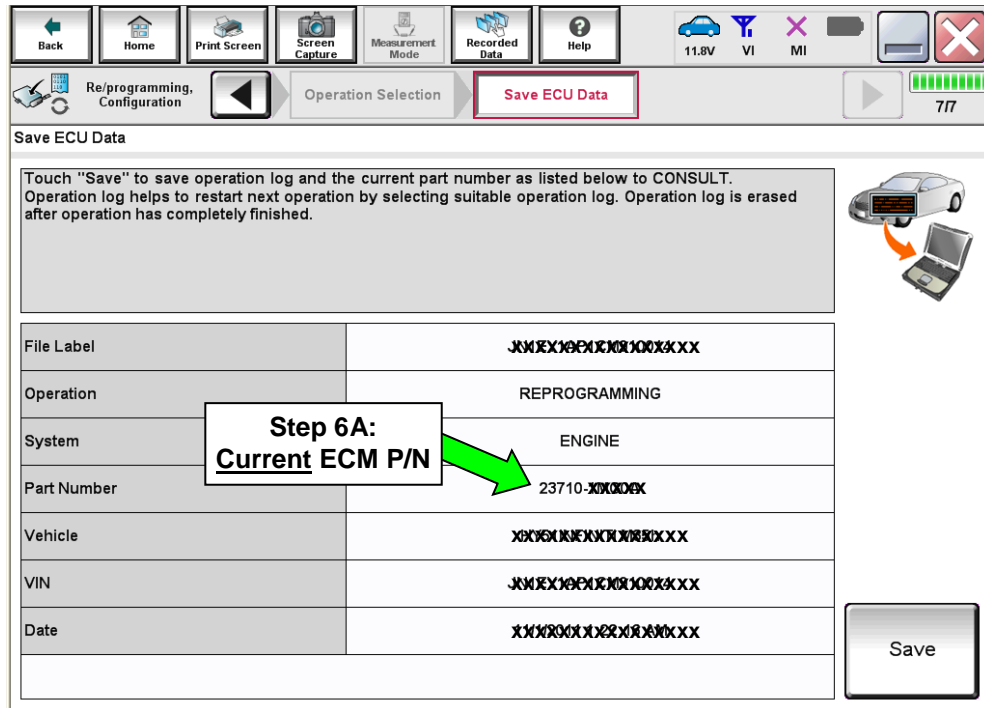

Figure 2
5. Follow the on-screen instructions and navigate C-III plus to the screen shown in Figure 2 on the next page
6. When you get to the screen shown in Figure 2, confirm this action applies as follows.